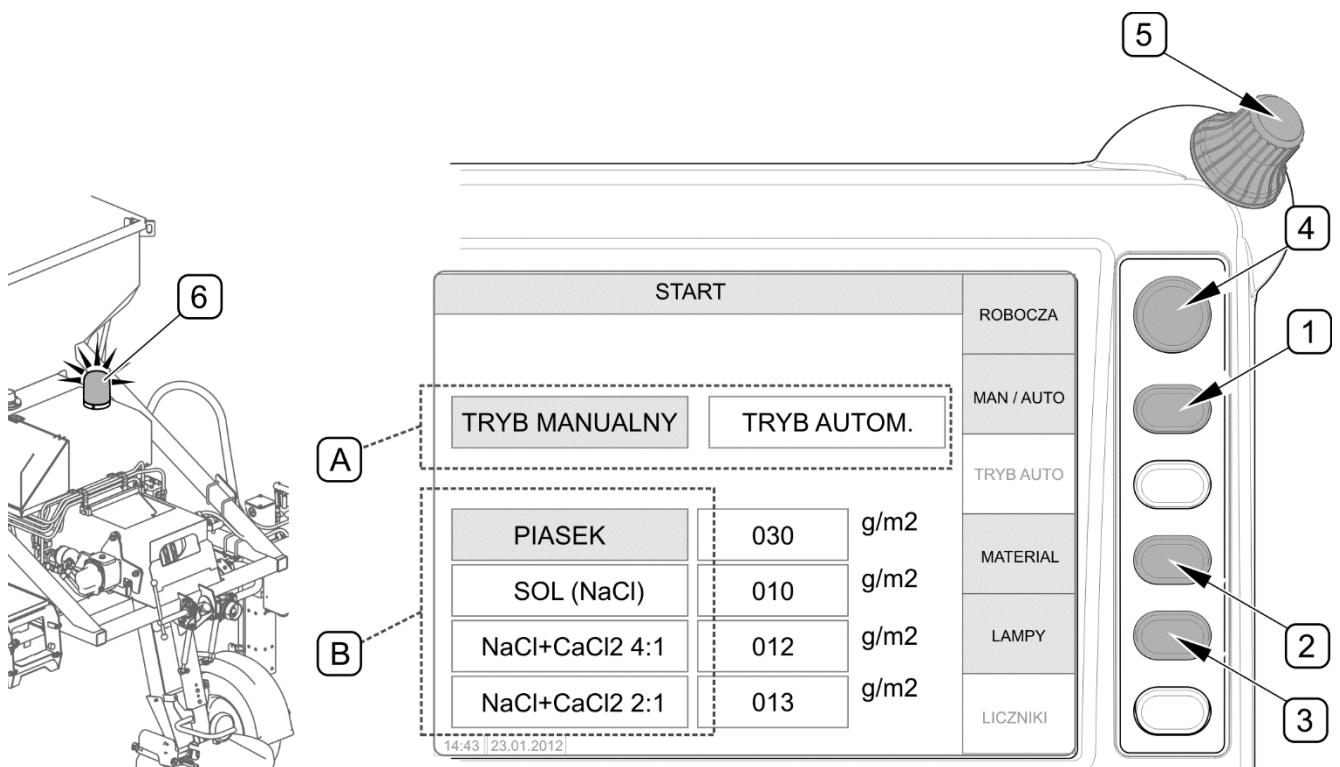

FIG. 4.29 Activating individual functions on control panel home page
On control panel home page („START”) (FIG. 4.29), in field (A), choose manual operation mode by means of push-button (1). Move to field (B) by means of push-button (2) and select the type of material which is in the tank by means of knob (5). By means of push-button (3), turn on warning lamp (6) at the rear of the machine. Move to working page "OPERATION" by means of push-button (4)